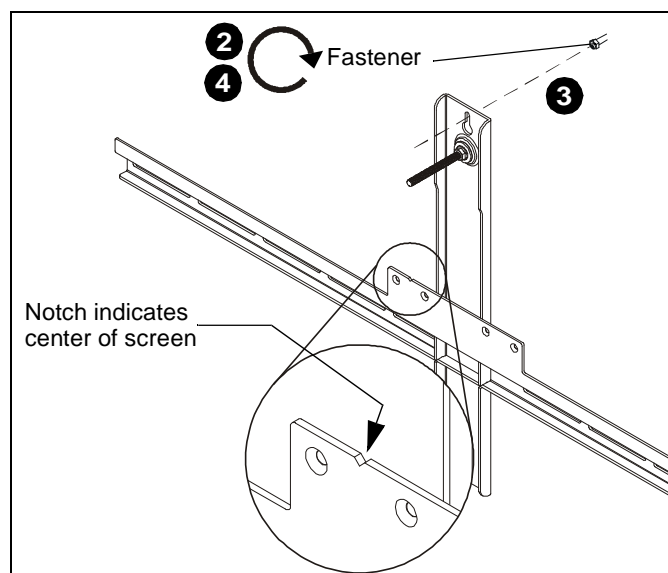

Figure 3
- Install one fastener (See Table 1) into previously drilled hole, leaving 1/2" of fastener extending from wall. (See Figure 3)
- Hang wall bracket assembly onto fastener. (See Figure 3)
- Tighten fastener against wall bracket. (See Figure 3)